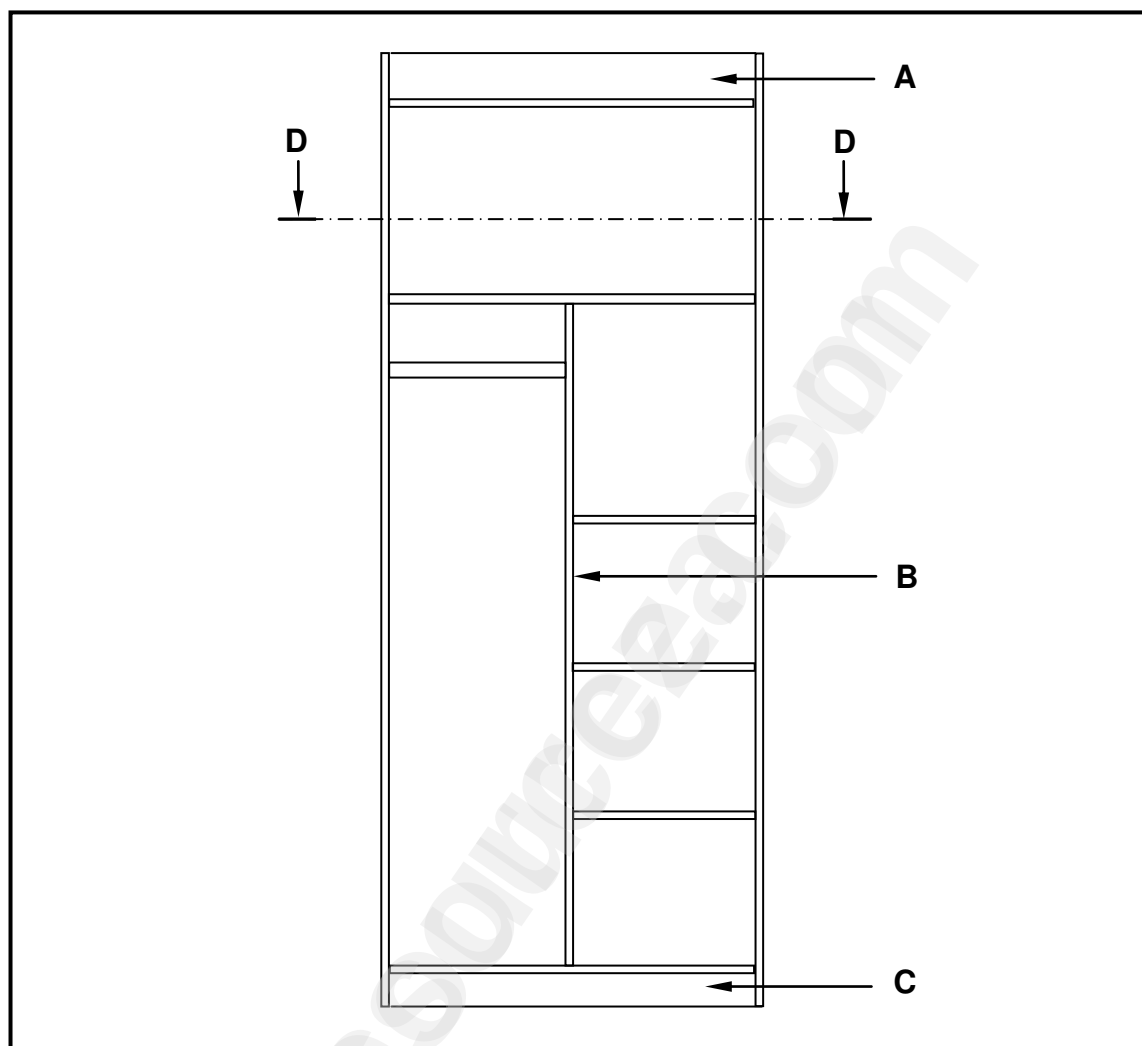

FIGURE 3.3
- 3.3 FIGURE 3.3 below shows the front elevation of a built-in cupboard without doors. **Downloaded from eduresourceza.com**